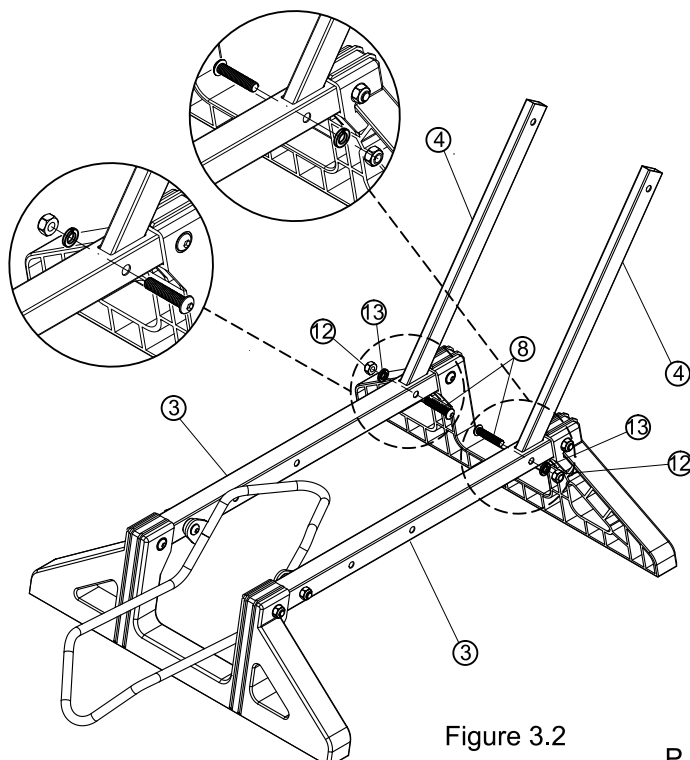

Figure 3.2
2. Align the screw holes at the bottom of the uprights④ with the holes of the brackets③. Then, use the M6 round head screw 28L⑧, spring washer⑬ and nylon nut⑫ to secure them. Ensure that the spring washer⑬ and the nylon nut⑫ are positioned on the outside. (See Figure 3.2)